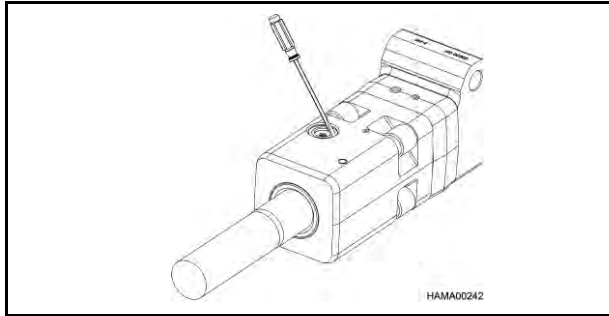
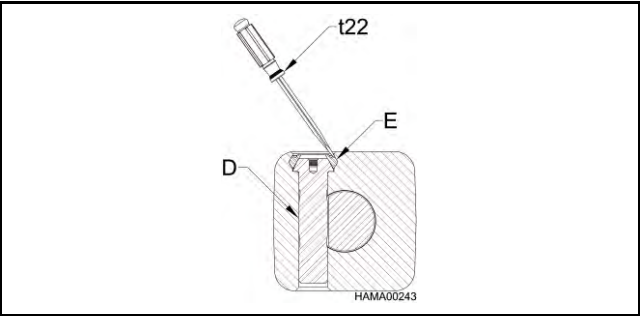

Figure 1
Figure 2
1. Remove the retaining pin ring (E) by using pliers or a screwdriver (t22), see Figures 1 and 2. It will easily come out if pulled at an angle as shown in Figure 2.